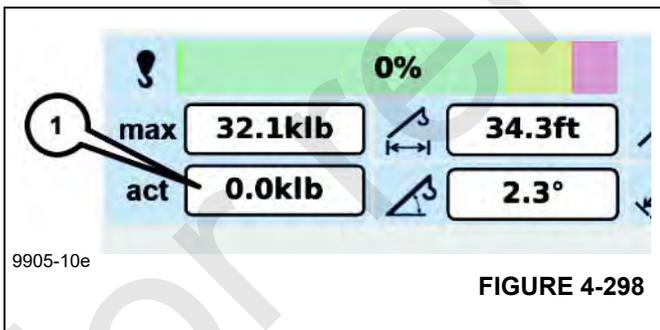

FIGURE 4-298
Display:	Lifted load (1), (Figure 4-298) in metric tons (t) or kilo-pounds (klbs) Example: 5.95 klb equals 5,950 lbs.